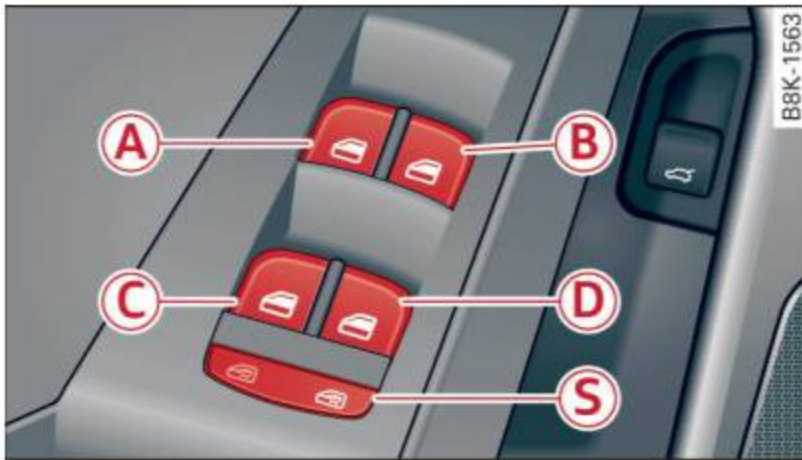

Fig. 35 Section of the driver's door: controls
When the safety button (S) is pressed ⇒ fig. 35, the  symbol in the button lights up. The power window switches in the rear doors are switched off.